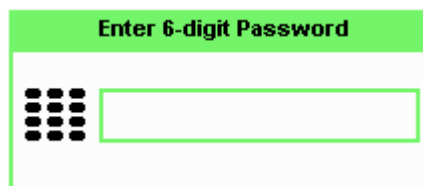

Figure 2-49 Enter 6-digit Password pop-up
- 3 Press **Secure Blank**. The Enter 6-digit Password pop-up will appear as shown in **Figure 2-49**. You need to enter a 6-digit password upon activating the secure blank feature.
- 5 If the entered password is not made up of six digits, a warning message will appear as shown below. This warning will appear for two seconds before the enter password pop-up (Figure 2-49) re-appears.
- 7 If the password entered is different from the initial password, a warning message will appear as shown in Figure 2-52. This warning will appear for two seconds before the Reconfirm Password pop-up (Figure 2-49) re-appears.